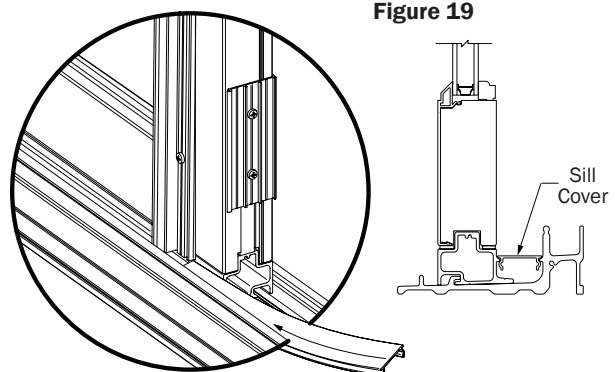

Figure 19
20. Slide sill cover into area between sill and sill block. Sill cover should then butt up against the side jamb (Fig. 19).